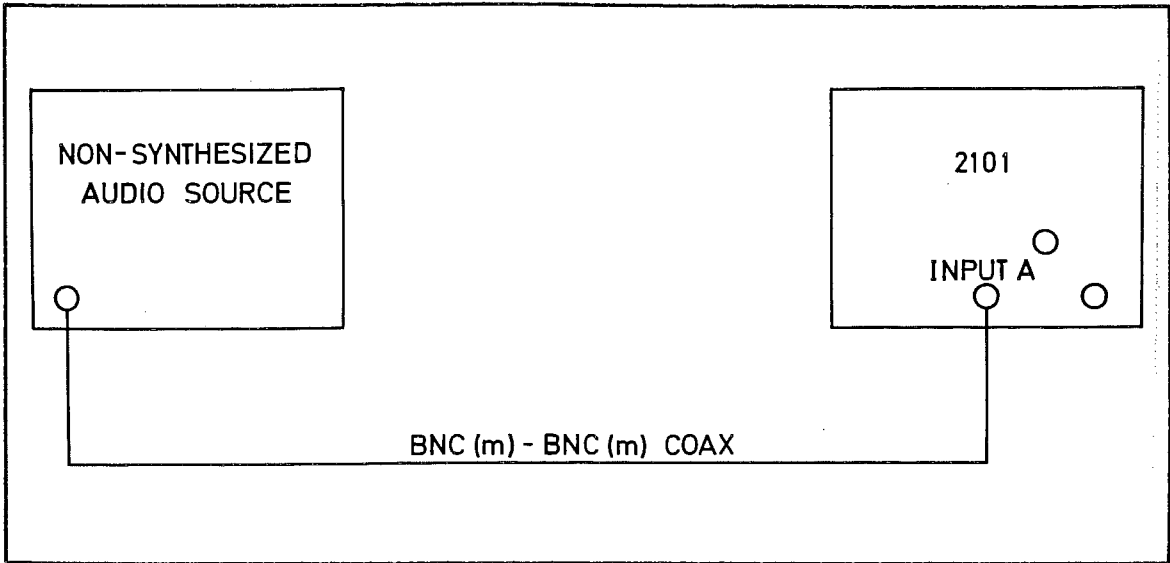

Fig. 7.20 Connection for AF Sensitivity PVP (Method 2)
- (1) Connect the equipment as shown in Fig. 7.20. Check that the EXT STD indicator is lit.